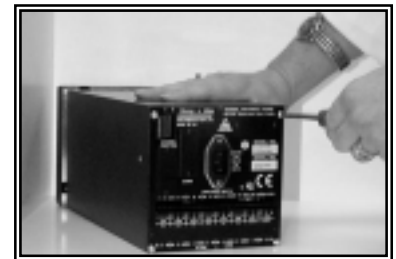

Figure 2
- To remove the rear panel of the recorder, loosen and remove the four No 6 x $\frac{3}{4}$ self tap screws at each corner of the rear panel, taking care to retain the toothed washer under each screw head. (Figure 2)